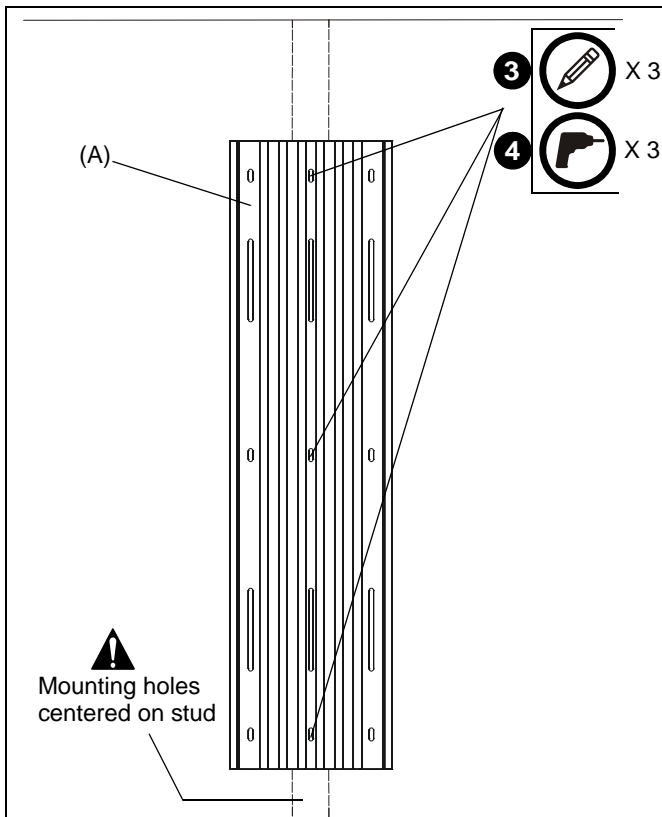

Figure 1
2. Align the middle mounting holes on mount with stud making sure mounting holes are centered on stud. (See Figure 1)
3. Using wall track accessory (A) as a template, mark location of three mounting holes on wall. (See Figure 1)
4. Drill three 7/64" holes. (See Figure 1)